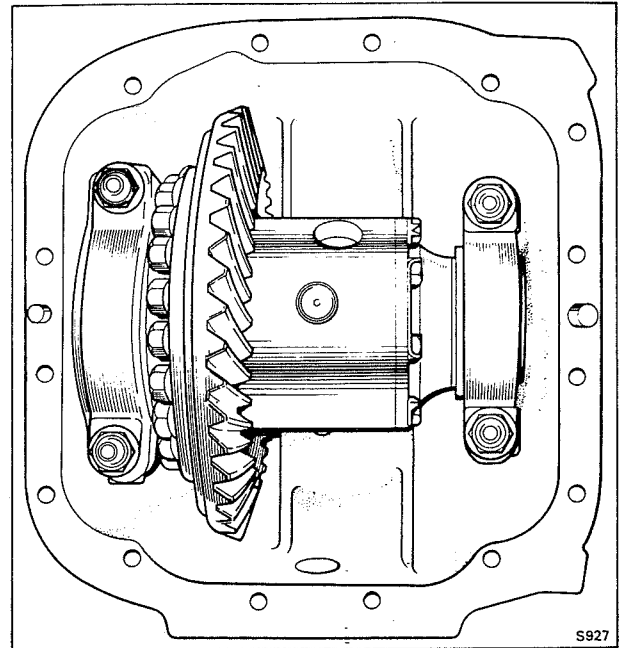

Fig. J3 Differential housing and crown wheel in position
4. Remove the nuts and washers from the bearing caps on each side of the crown wheel and differential assembly (see Fig. J3).